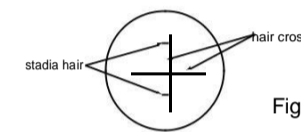

Fig.6
- (1) Point the staff, get the reading between upper & lower stadia hair, unit is "cm"
- (2) Then the distance from the instrument to the staff equals to l , unit is "m". (Fig.6&7) length of l is 32cm, that is the distance from instrument to staff is 32m.